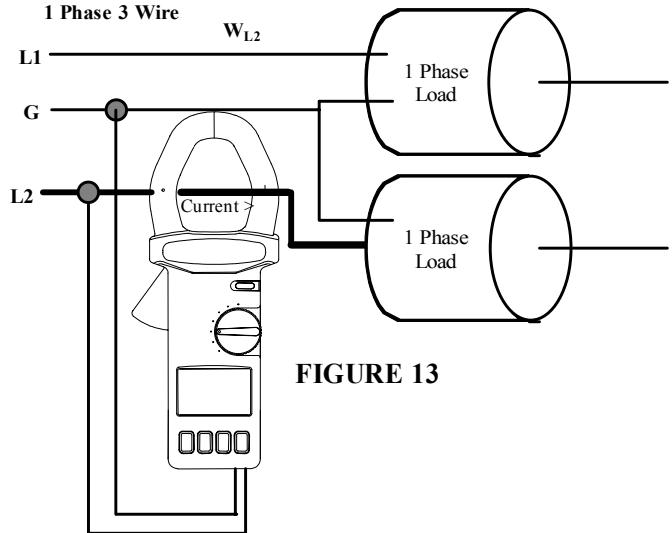

FIGURE 13
2. Secondly, measure W_{TS} (or W_{L2G}). Fig. 13.